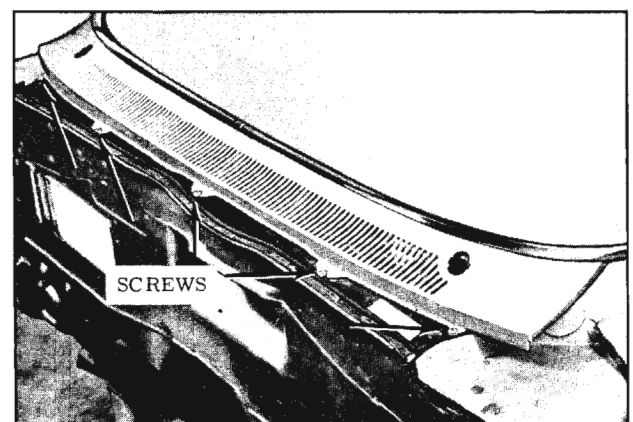

Fig. 16-4 Air Intake Grille
3. Remove air intake grille attaching screws. (Fig. 16-4)